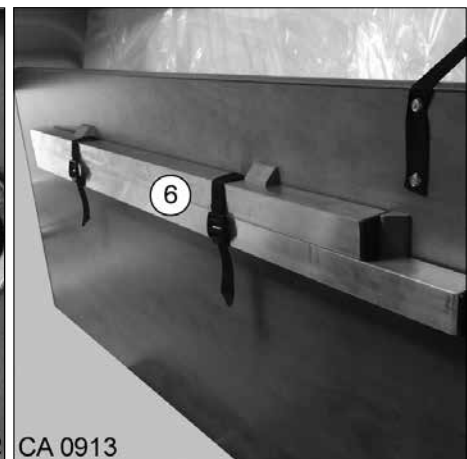

Fig. 25 Rectangular tube holder
4. Remove the rectangular tube (Fig. 25, Pos. 6) and secure them to the bottom side of the bed frame.